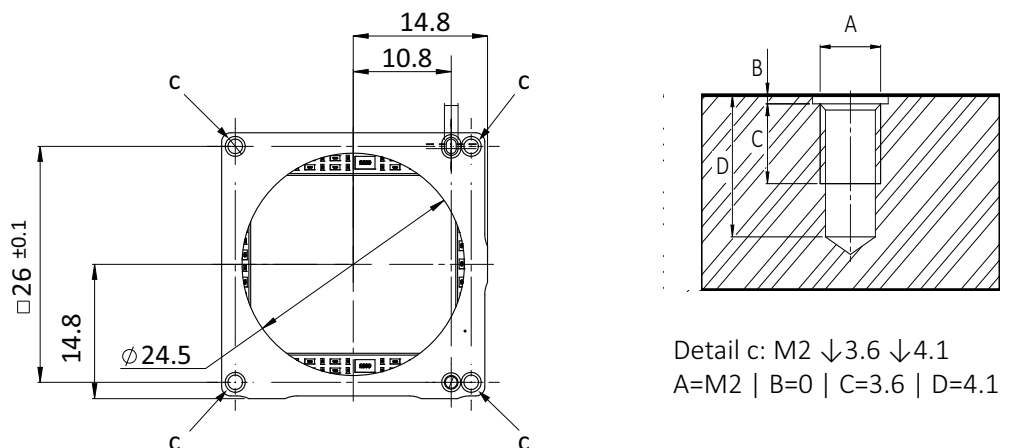

Figure 102: Mounting threads Alvium Frame
As shown in Figure 102, mount the camera to the base using suitable M2 screws for the 4 mounting threads: At 0.4 Nm maximum torque for a thread engagement (C) of 3.6 mm between screws and mounting threads.